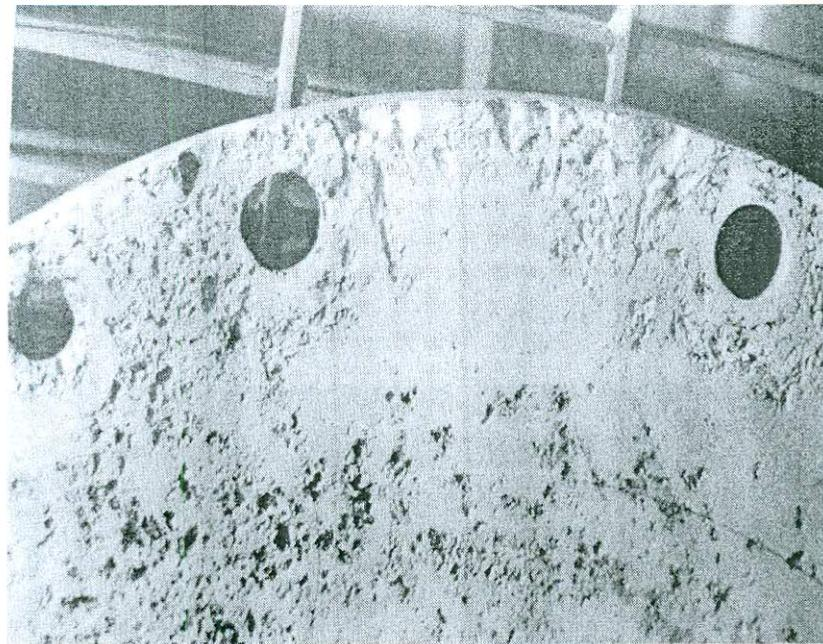

Figure 5 - Two views of corrosion in a type 316 stainless steel centrifuge head
- [b] Discuss the type and mechanism of corrosion in a type 316 stainless steel centrifuge head due to exposure to calcium chloride ( $\text{CaCl}_2$ ) solution (Figure 5).